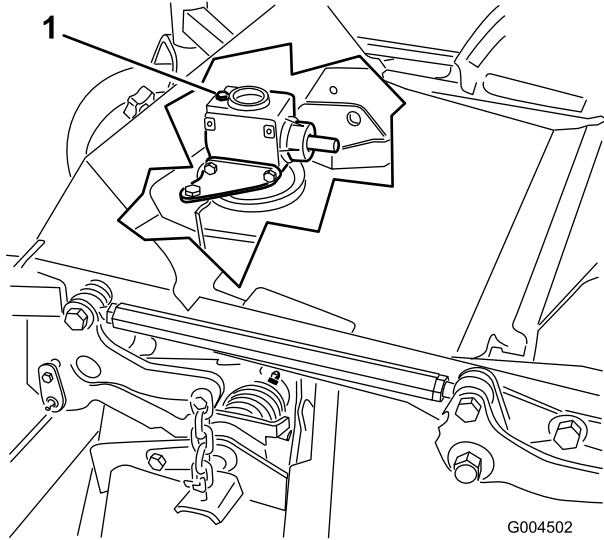

Figure 44
6. Remove the dipstick/fill plug from the top of the gear box (Figure 44) and make sure that the lubricant is between the marks on the dipstick.
6. Remove the dipstick/fill plug from the top of the gear box (Figure 44).